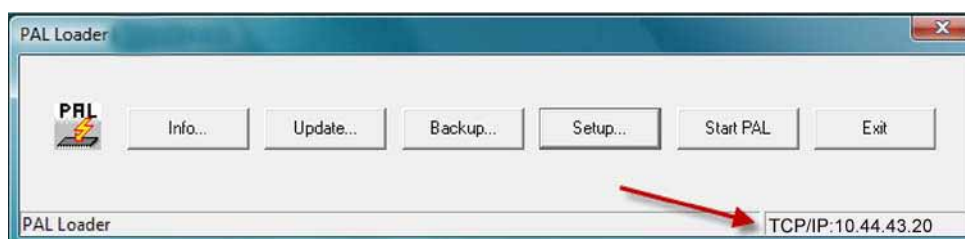

Fig. 97: PAL Loader startup dialog
2. Double-click the PAL Loader icon to open the startup dialog (→ Fig. 97, page 158).